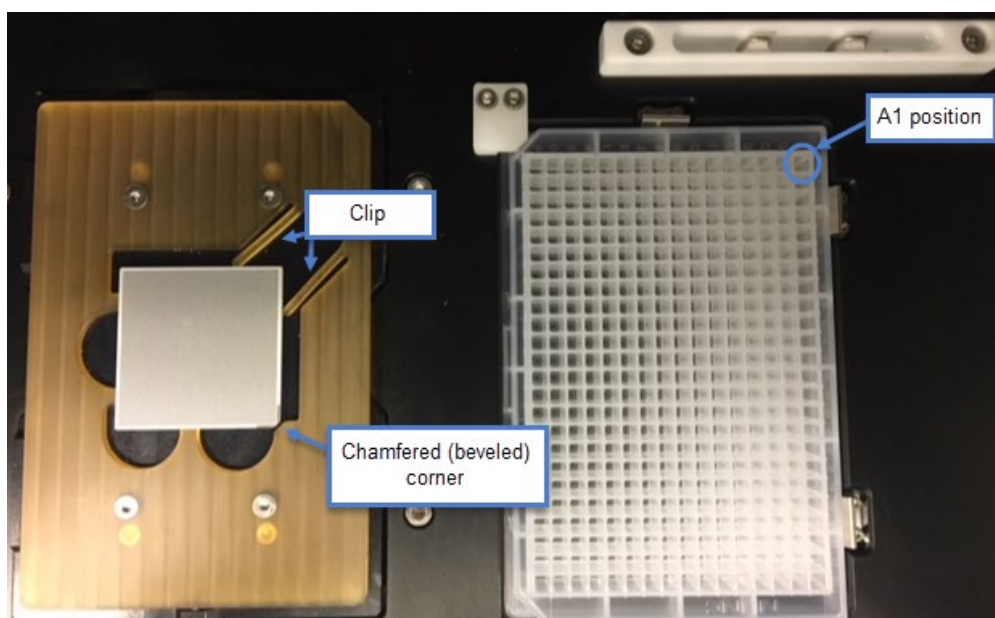

Figure 3. ICELL8 cx Single-Cell System Stage Module. (Left) chip nest. (Right) source plate nest.
- All dispensing steps in the ICELL8 cx Single-Cell System Stage Module should be performed with a 384-Well Source Plate oriented with the A1 well positioned at the top-right corner of the 384-well plate nest (Figures 3 and 4, below). The source plate must be fully seated. This may be accomplished by pushing the source plate down after it has been placed on the plate nest.
- All dispensing steps in the ICELL8 cx Single-Cell System Stage Module should be performed with the chip oriented with the chamfered (beveled) corner positioned towards the bottom-right corner of the chip nest (Figures 3, next page).